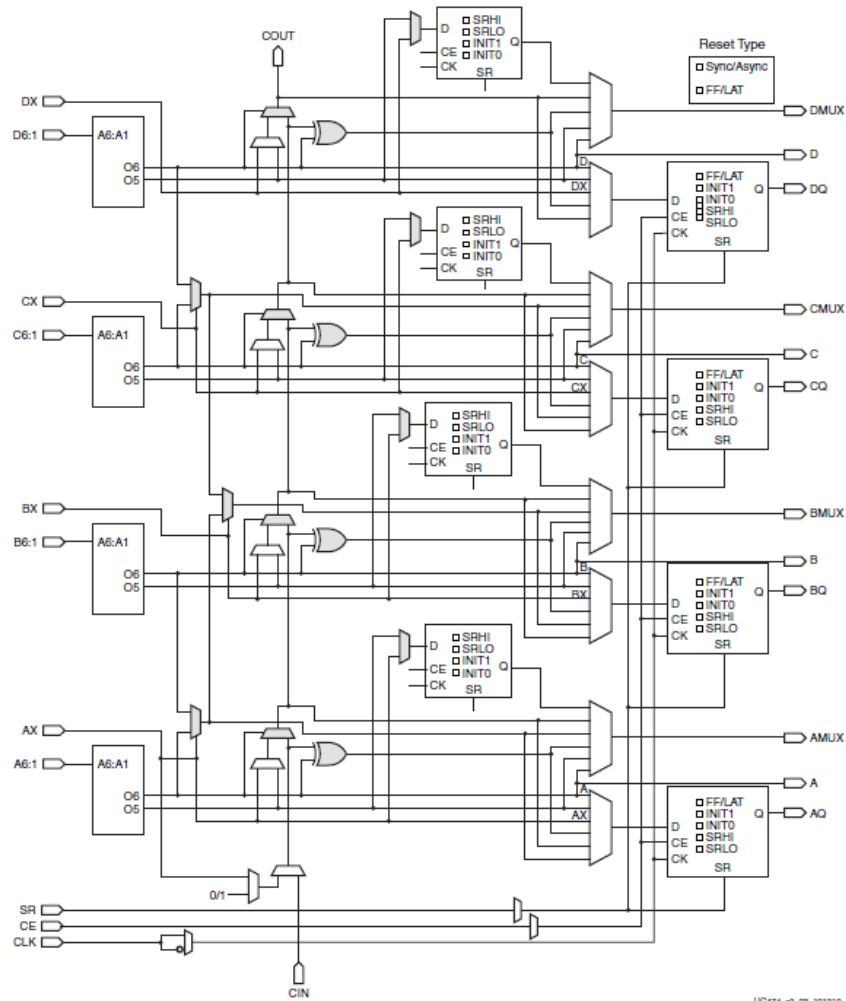

Figure 2-4: Diagram of SLICEL
- Slices that support these additional functions are called SLICEM; others are called SLICEL (Figure 2-4)